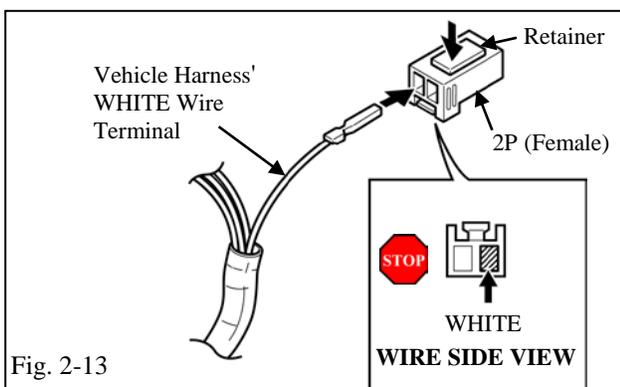

Fig. 2-13
- (s) Insert the terminal at the end of the vehicle harness' WHITE wire into the right side opening of the empty 2P connector as shown, then close the retainer. (Fig. 2-13)
- (1) Turn the connector so the wires face you and the tab is on top.
- (2) Verify the correct opening is chosen.
- (3) Verify the terminal is inserted and seated properly. The terminal should not come out when pulled lightly from the back. If the terminal comes off, then push it in again.